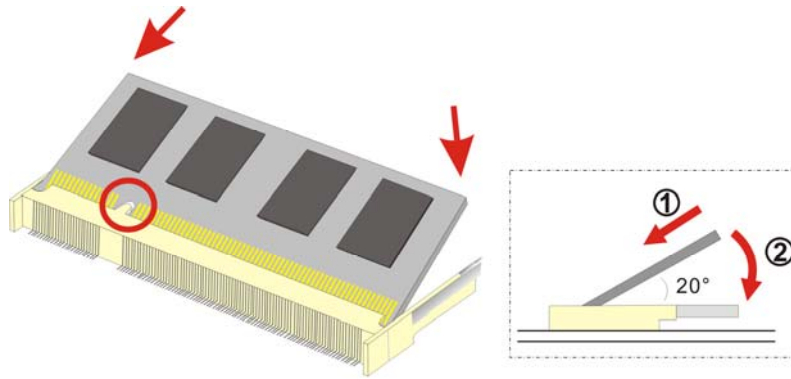

Figure 4-2: SO-DIMM Module Installation
Step 5: Install the new SO-DIMM module by pushing it into the socket at an angle (**Figure 4-2**).
Step 6: Gently push the rear of the SO-DIMM module down (**Figure 4-2**). The spring retainer clips clip into place and secure the SO-DIMM module in the socket.